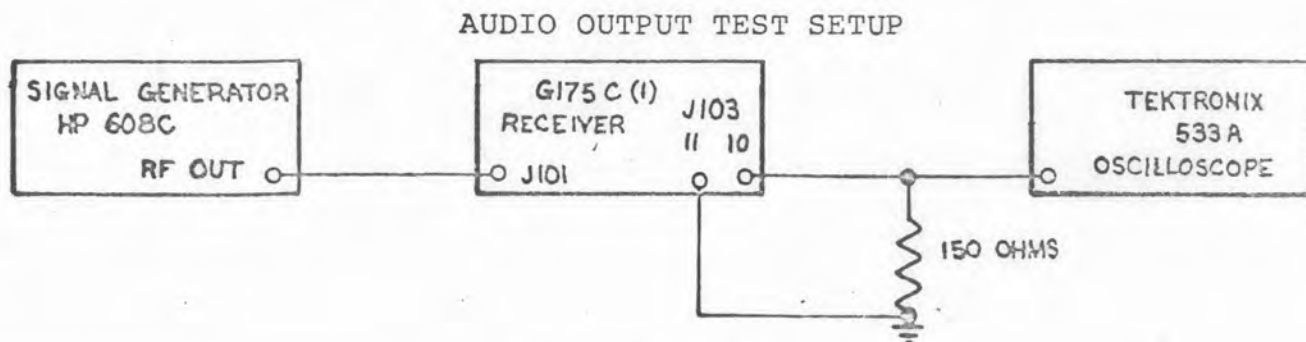

Figure 5-22 .
a. Connect equipment as shown in figure 5-22.